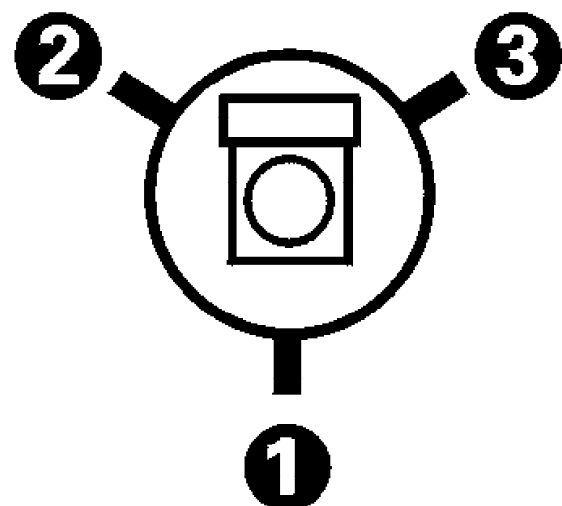
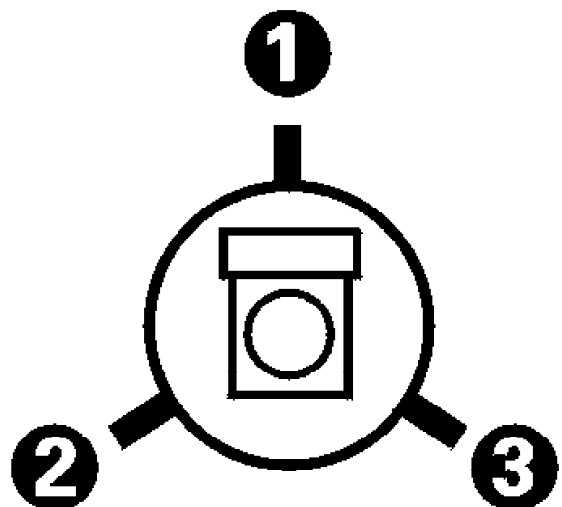

Fig. 3c
Fig. 4c
Note: To secure the correct position of the deflection yoke, three rubber wedges are used. They are ultimately to be placed as shown in Figure 3c or Figure 4c.
5. Remove wedge one and place it in the final position as shown in Figure 3c or Figure 4c.